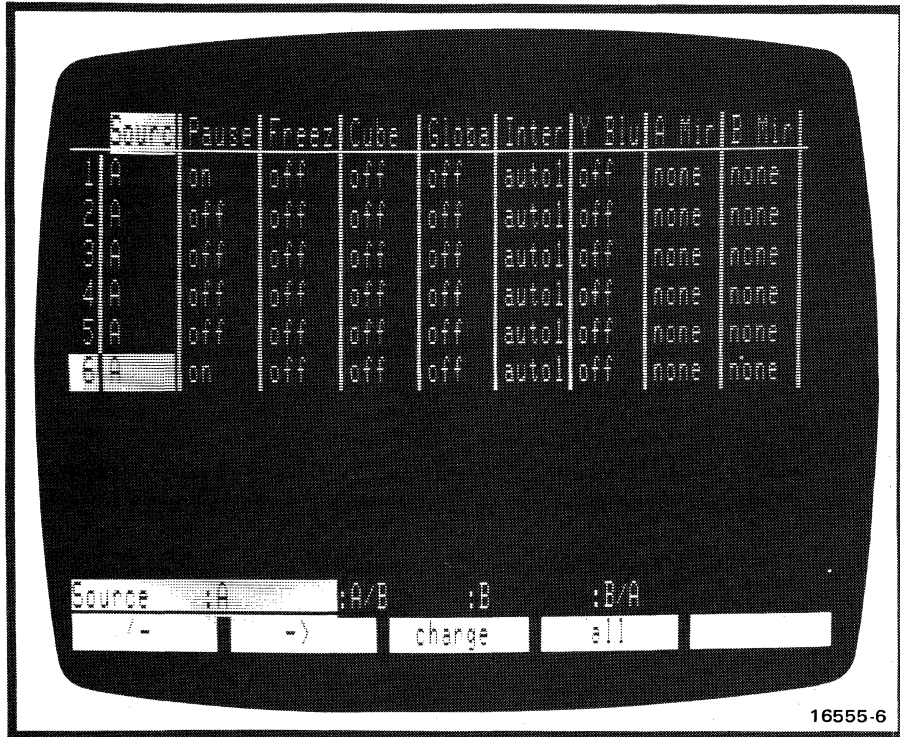

Figure 2-11. Keyframe Flags Menu
- **keyf flags** brings up the keyframe flags menu (see Figure 2-11) and a soft key menu consisting of: